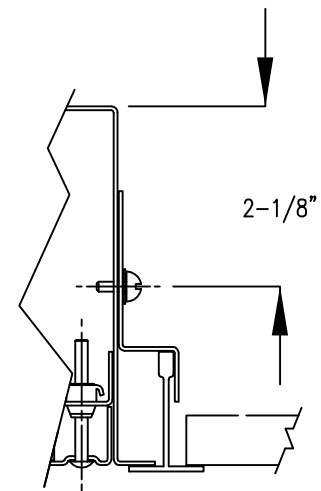

FIGURE 3
- CLOSE DOOR TO HOUSING (SEE FIGURE 3) AND SECURE WITH FACTORY SUPPLIED CLOSING SCREWS.